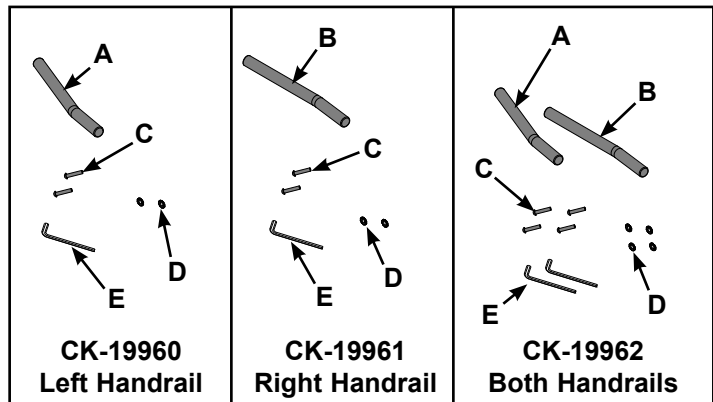

Figure 39
2. Verify the appropriate kit and contents. See Figure 39. **NOTE:** This instruction describes assembly of both the extension handrails. If installing only one of the two handrails then follow the instructions for only the side replacing.